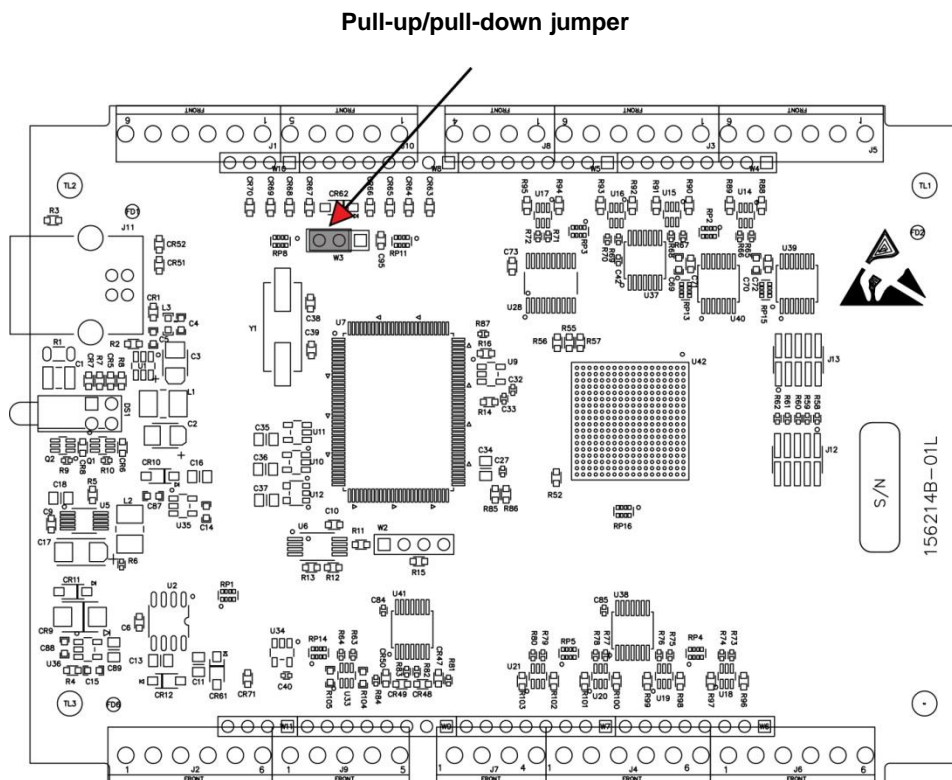
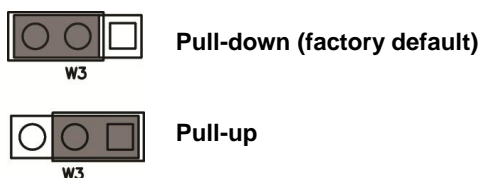

Figure 12. Pull-up/down jumper location
Figure 13. Pull-up/down jumper configurations
The digital port has 47 k Ω resistors that you can configure as pull-up or pull-down with internal jumper (see Figure 12 on page 16 for the location of this jumper).
5. Configure the jumper for either pull-up or pull-down. The jumper is configured by default for pull-down (see Figure 12 and Figure 13).
Figure 12 shows the location of the pull-up/down jumper on the USB-CTR04 with the enclosure removed.
The pull-up/down jumper is configured by default for pull-down (see Figure 13).